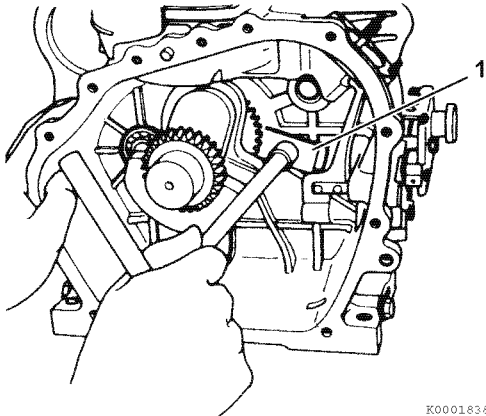

Figure 6-94
8. Position the bearing retainer plate (1, **Figure 6-94**) in the crankcase.